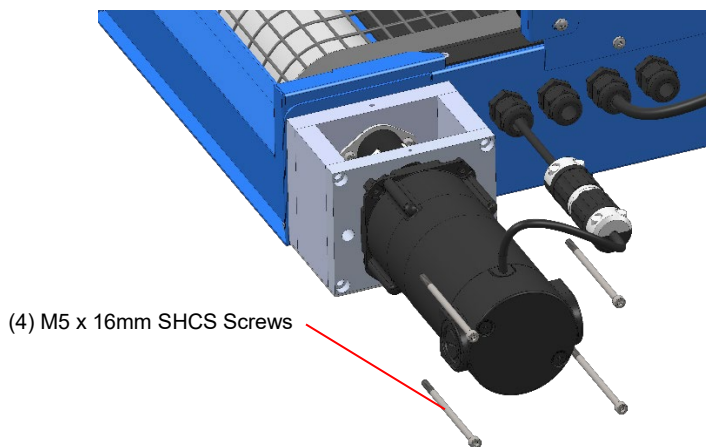

Figure 4. Remove M5 x 16mm SHCS Screws
3. Loosen and remove the (4) M5 x 16mm SHCS (Socket Head Cap Screw) screws holding the motor mounting plate to the conveyor (Figure 4). Use caution to ensure the motor does not fall off the conveyor when removing the screws.